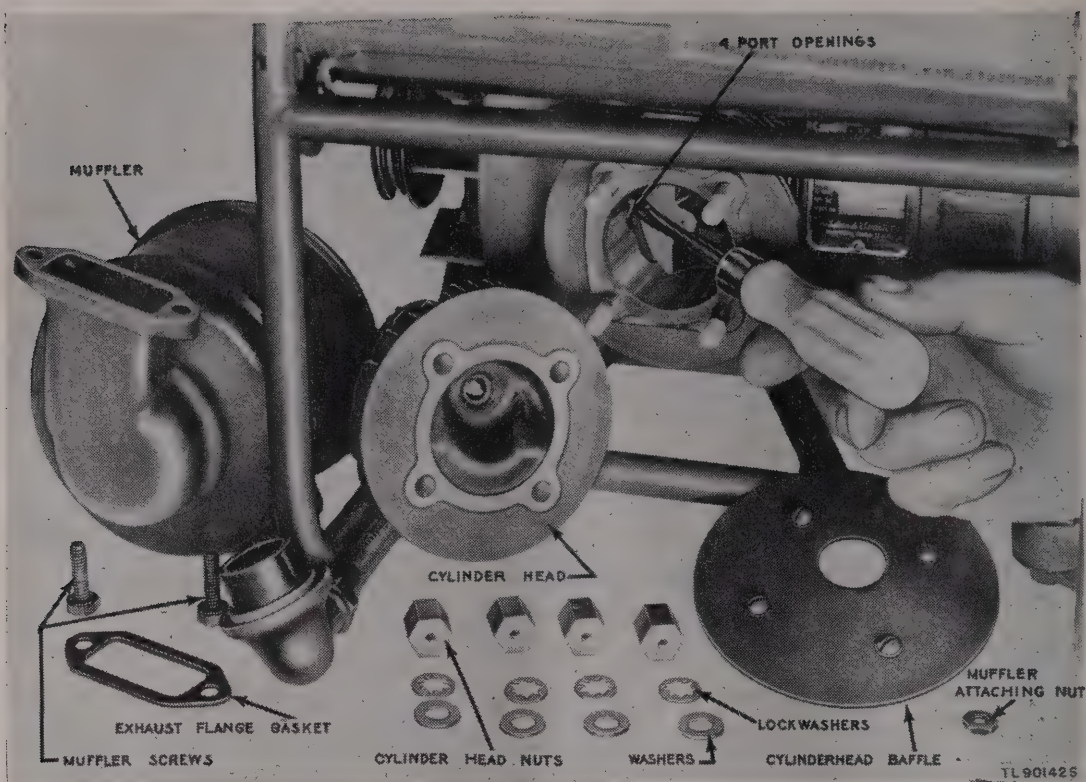

Figure 44. Carbon removal, intake ports.
- (1) Remove the spark plug shield cap. Unscrew the spark plug and remove it with the spark plug shield body (par. 63b(2)(d) ).
- (2) Remove the four screws and lockwashers that attach the cylinder head baffle and remove baffle (fig. 44).
- (3) Remove the four nuts, lockwashers, and plain washers that attach cylinder head to cylinder and lift off cylinder head.
- (4) Remove the cylinder head gasket. Do not damage it.
- (1) Scrape and blow accumulated dirt and oil out of the air passages in the cylinder head fins. These fins must allow free circulation of air to prevent overheating of engine. Clean carbon deposits from inside of cylinder head and wash head thoroughly in solvent (SD). Inspect the spark plug hole. Be sure it is clean and threads are not stripped.
- (2) Turn the engine over by hand until the piston is at bottom dead center. Using a screwdriver, remove carbon from the intake ports and piston head (fig. 44). Be sure no carbon chips are left in the cylinder.